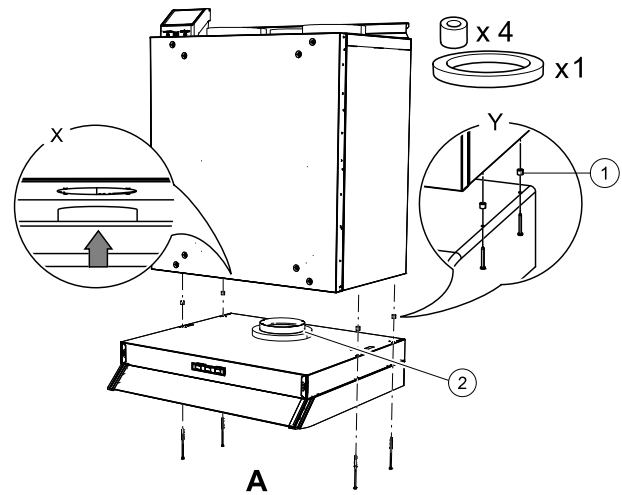

Fig. 8 Installation of the cooker hood
1. Place a circular insulation on the cooker hood connector to prevent air leaking (figure 8, pos. 2).
Insert the cooker hood directly into the unit (figure 8, A). Screw the cooker hood to the bottom of the SAVE VTR 150/B unit (figure 8, pos. Y). The duct connector have to go into the unit. Make sure the duct connector is aligned with the unit before starting (figure 8, pos. X). Use included screws and plastic spacers to prevent over-tightening which could lead to bent cooker hood (figure 8, pos. 1).